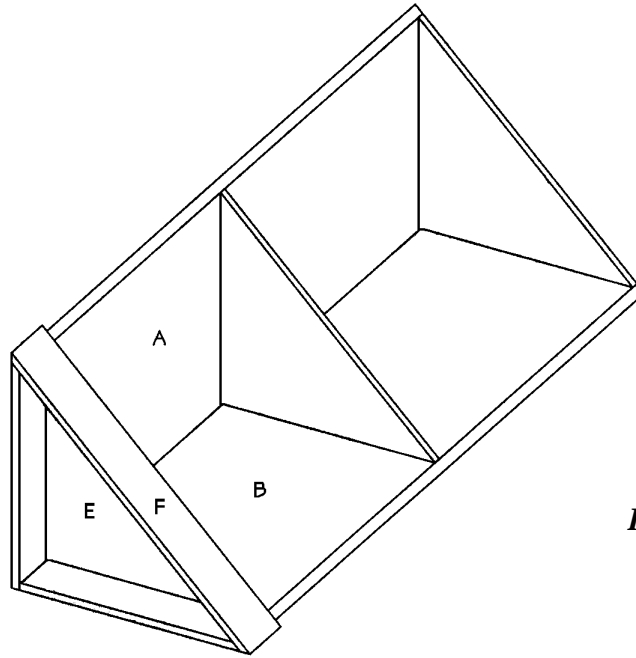

Figure 5
3. Apply glue to the meeting surfaces and fit the bottom trim (F) over the edge of the bottom (E), as shown in *Figure 5*. Screw through the bottom trim (F) into the edge of the bottom (E) and the edges of the wide and narrow sides (A and B) using 1-5/8-inch screws spaced about five inches apart.